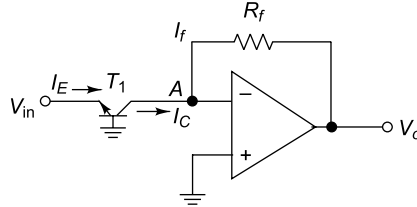

Fig. 5.60 Circuit of Ex. 5.26
5.26 Determine the output voltage V_o of an antilog amplifier using OP-AMP and transistor as shown in Fig. 5.60. Assume $V_{in} = 500 \text{ mV}$, $R_f = 10 \text{ k}\Omega$, $\tau = 1$, $V_T = 25 \text{ mV}$ and $I_o = 10^{-13} \text{ A}$.